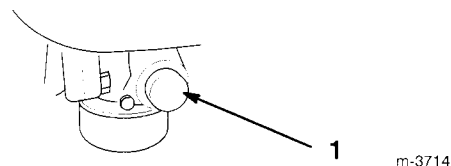

Figure 12
2. Push the primer three times, waiting two seconds between each push (Fig. 9 or Fig. 12).